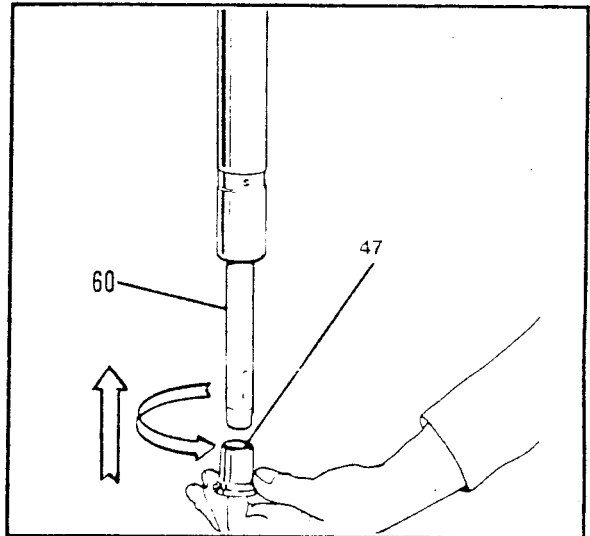

Figure 5-27. Damper Rod Seat Assembly
5. See Figure 5-27. Assemble the damper tube seat (47) onto the damper tube (60). Be sure it is fully seated.